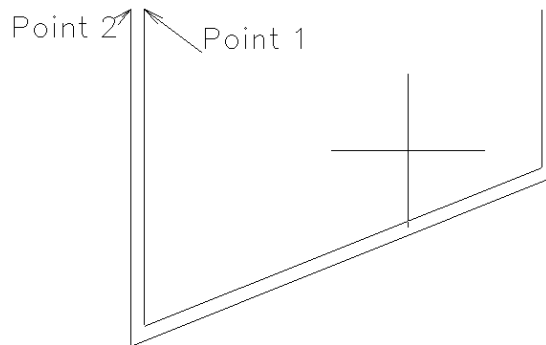

Figure 7
2. Make a **PARALLEL LINE** (=) to this one at the amount and direction of overhang. (Figure 7)